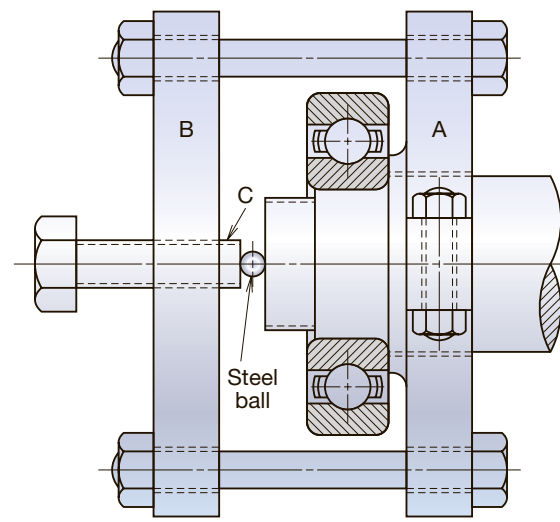

Fig. 44 Tool for Withdrawing an Inner Ring
The tool shown in Fig. 44 is also effective for withdrawing an inner ring. Back plate A, consisting of an upper board and a lower board, is fastened with bolts. Inserting a steel ball (thrust ball bearing for a large-size bearing) between front plate B and bolt C increases reliability. Appropriate bolt holes should be drilled in A and B according to the size of the individual bearing. The force required for pulling out the inner ring can be obtained using the aforementioned equation (5) and Tables 3 and 4. The back cover of the housing may be used instead of back plate A, depending on specific conditions. Large-size roller bearings with large interference can be dismantled more easily without damaging the inner ring, in accordance with the previously described mounting/dismounting method by induction heating. When this device is not available, the inner ring may be expanded by heating the circumference with a burner or similar equipment. This method is intended to prevent damage to the shaft without regard for the possible reuse of the bearing. The dismantling of bearings must be sufficiently considered well in advance, at the design stage, and the appropriate method must be selected and prepared for prior to implementation. In other words, no aspect of bearing design is complete unless the processes of mounting and dismantling have been taken into account.